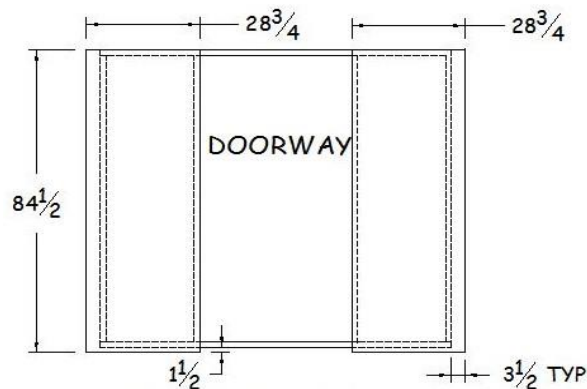

Figure 22-6. Front Wall Sheathing.
- b. Cut two pieces of $\frac{1}{2}$ " OSB to $28\frac{3}{4}$ " x $84\frac{1}{2}$ ". Cut the 48" width of the sheets to $28\frac{3}{4}$ " first, then the length to $84\frac{1}{2}$ ". This leaves a $19\frac{1}{4}$ " wide OSB drop. Position the OSB rough side up, flush with the edge of the door opening, and flush with the top edge of the upper plate. There should be an overhang of $3\frac{1}{2}$ " on each side and an overhang on the bottom plate of $1\frac{1}{2}$ ". A scrap piece of 2x4 can be used as a gauge for the $3\frac{1}{2}$ " and $1\frac{1}{2}$ " overlaps. Nail each piece of OSB into studs and both plates every 8-12" using $\frac{23}{8}$ " collated nails. See Figure 22-6.
1. Verify that all the wall components have been sheathed (see Figures 22-6, 22-7 and 22-8). There should be two 8' long walls for the sides, a short back wall and a short front wall with the door opening. The OSB sheathing on all walls should extend $1\frac{1}{2}$ " below the bottom plate to attach to the sides of the floor frame. On the short walls, the OSB should also extend beyond the end studs by $3\frac{1}{2}$ " to overlap the long wall end studs.